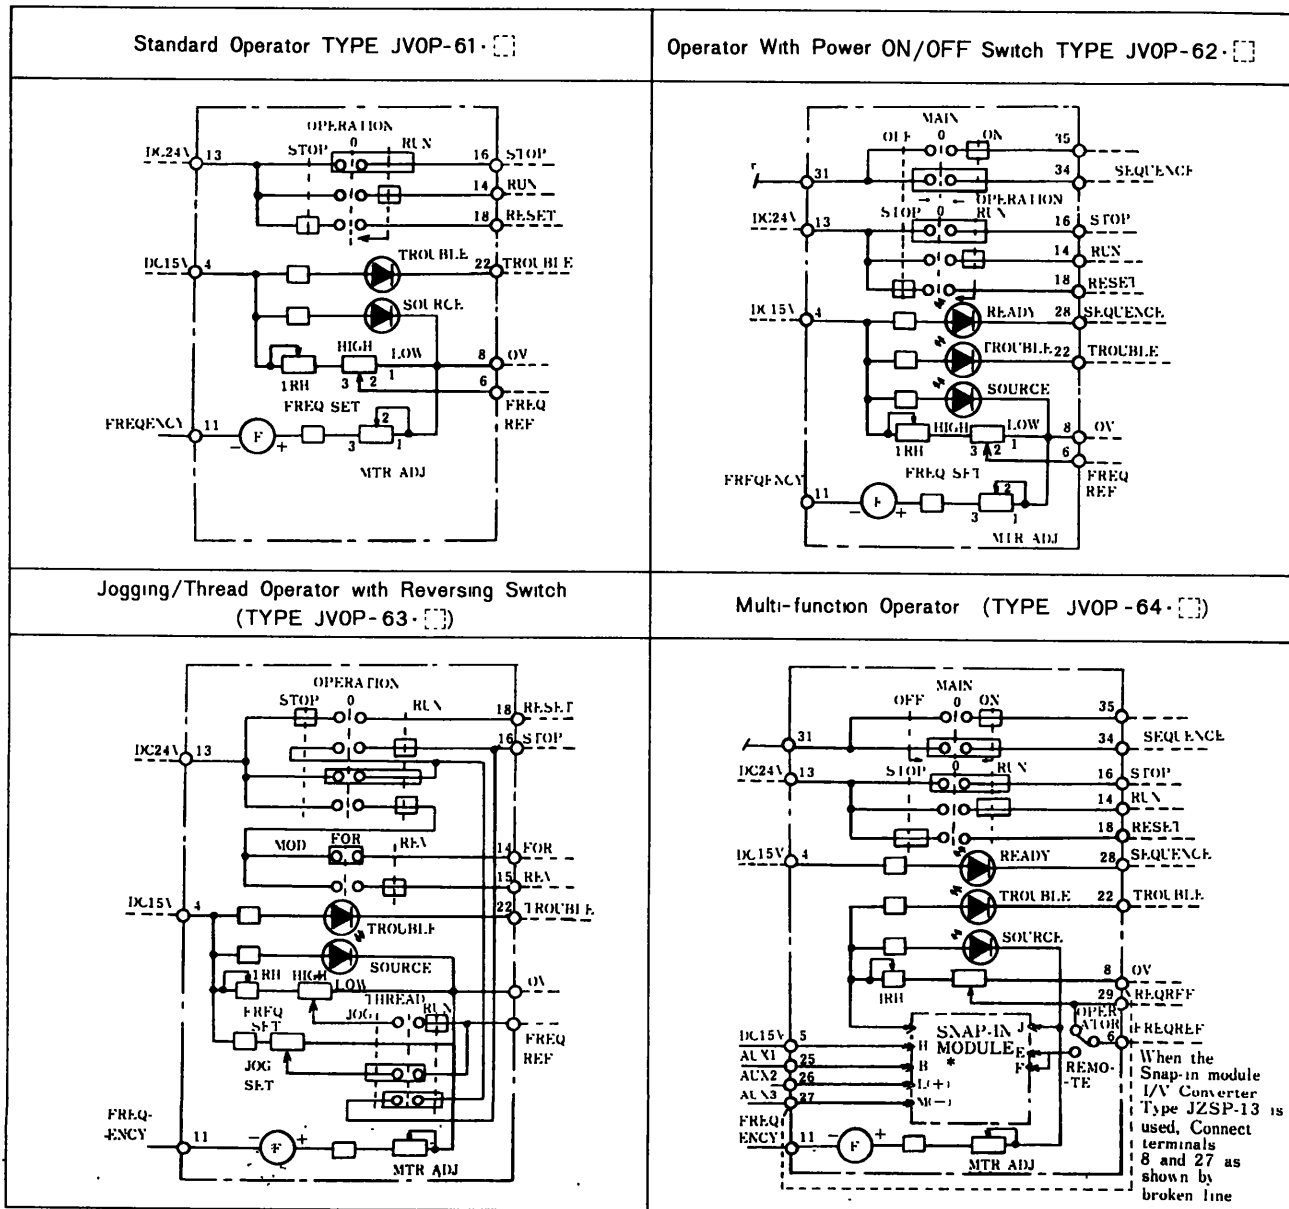

Fig. 16.2 Internal Connections of VS Operator and Terminals
16.2 INTERNAL CONNECTION AND TERMINALS (Fig. 16.2)